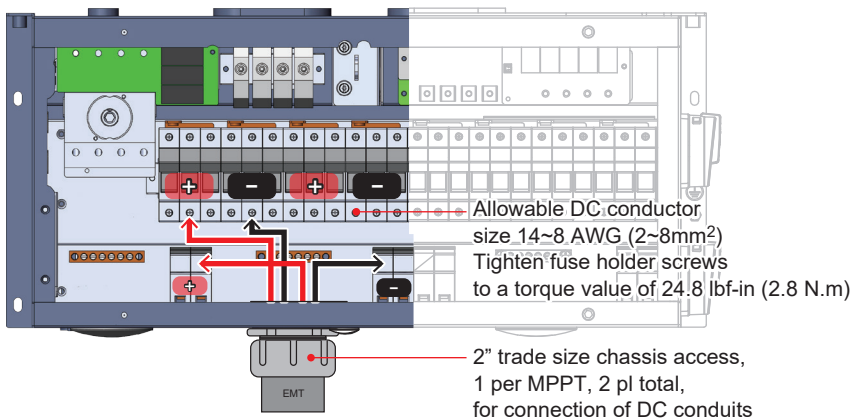

Figure 3-15: Location and string wiring to DC fuse holders for M80/60U₁₂₀ (shown for MPPT 1)
- Two 2" chassis access holes (KOs), one per MPPT can be utilized to connect conduits from PV array DC wiring into the inverter, as shown in **Figure 3-15**.